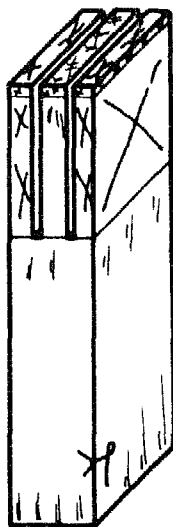

Fig. 9
- Rip the sides of the tenon, sawing on the waste side of the lines (Fig. 9).